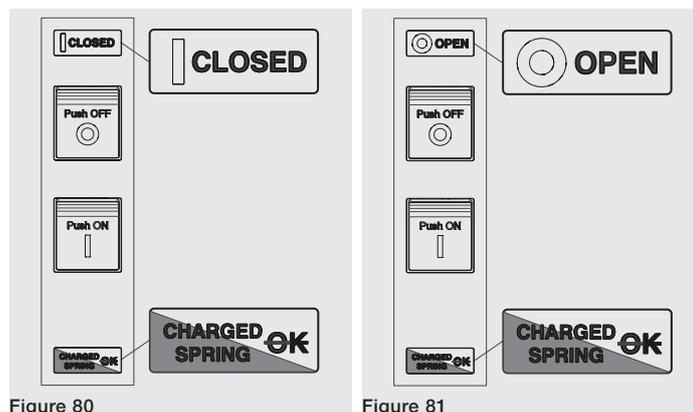

Figure 80
4. Circuit-breaker closed with springs charged and not ready to close (see Figure 80). This state occurs when after closing (see step 4 - Manual operations for opening and closing the circuit-breaker) the springs are recharged manually or automatically by the gearmotor (if provided).